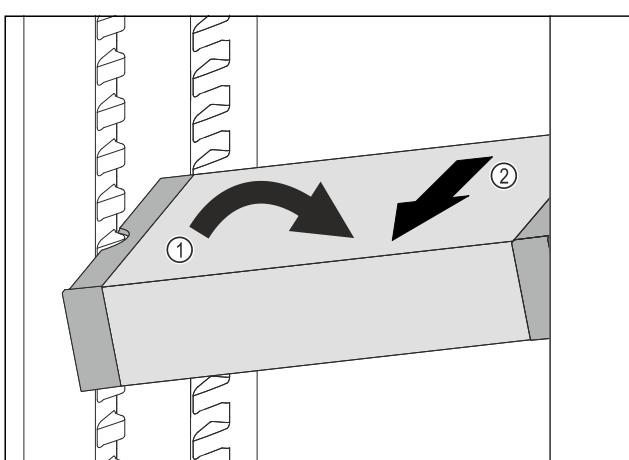

Fig. 100
► Set VarioSafe in refrigerator compartment at an angle. Fig. 100 (1)
► Take VarioSafe out to the front. Fig. 100 (2)